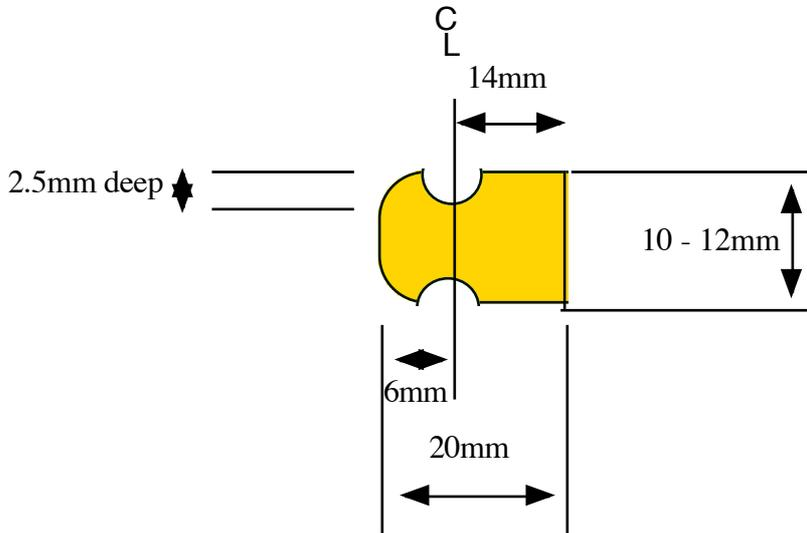
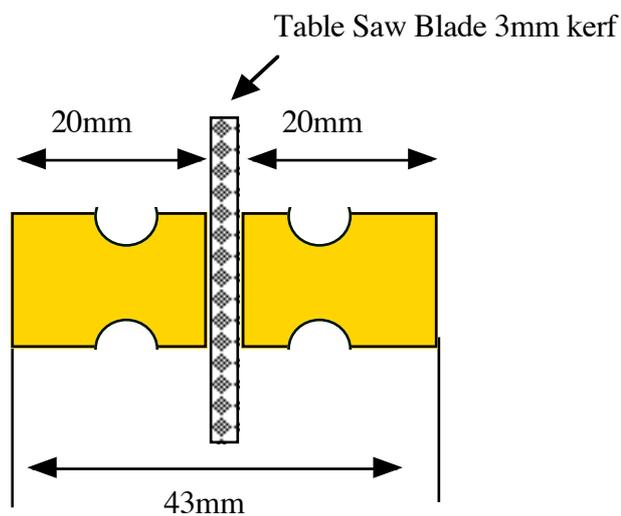
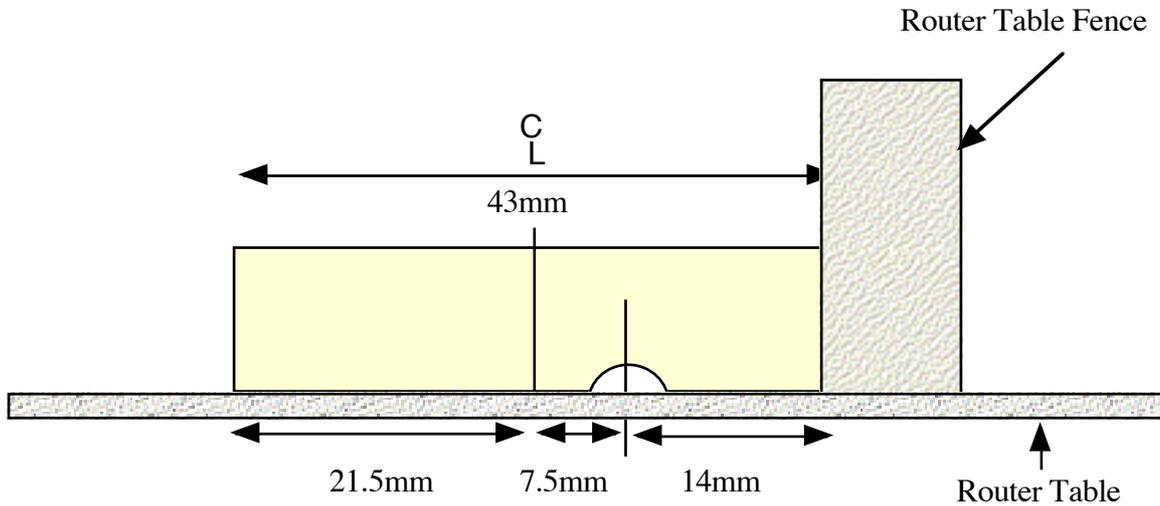

Figure 2
Figure 3
Figure 4
For the purpose of this exercise let's make each finished item 20mm wide, 10 - 12 mm thick and 30mm long. This is shown in Figure 2, which also shows the centre of the cove, slot or "V" as being 6mm from the front of the finished item, and at a depth of 2.5mm.
Therefore, given the dimensions shown in Figure 2 our stock should be neatly milled and jointed to 43mm wide. Figure 3 shows the details.
In **Figure 2** we have shown the centre of the grooves as being 6mm from the front edge of the finished item, which would make this point 7.5mm from the centre line (taking into account the saw kerf). Set your router table fence so that the centre of the groove will be as shown below in **Figure 4** and set the height of the bit at 2.5mm.